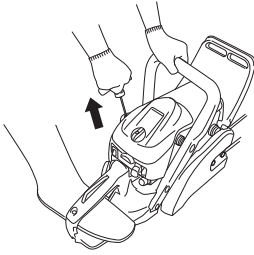

Fig. 15
- Pull recoil starter briskly, taking care to keep the handle in your grasp and not allowing it to snap back. (Fig. 15)
- Pull recoil starter briskly again in the aforementioned manner. (Fig. 15)